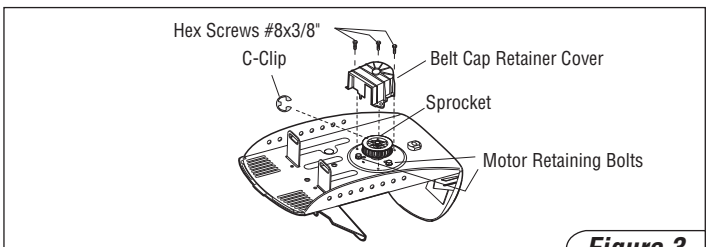

Figure 3
4. Remove the belt cap retainer on top of opener by removing the three screws that secure it (Figure 3). Remove the belt from the sprocket. Position the trolley at the center of the rail. Using belt, manually position at center of rail.
5. Use screw driver to remove C-clip from motor shaft. Then slide the sprocket off motor shaft (Figure 3).
7. Remove the motor by loosening the three bolts and washers on the top of the opener (Figure 3).